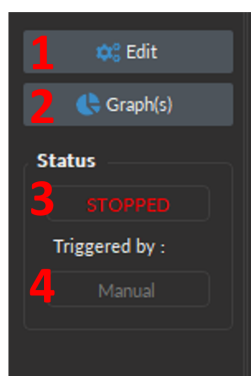

Figure 5.45: Common parameters
The following are the configurable parameters of a **KeyPress Event**, per Fig. 5.45:
6. The **Shortcut Key(s)** can be any keyboard key, including space bar, enter, backspace, any letters, number and special characters (*, !, ? etc.). To specify the key, click inside the *Shortcut Key(s)* cell, then press the keyboard key of choice. If a key was properly set, it will appear in the *Shortcut Key(s)* cell (as in Fig. 5.45, column 6).
The **Acquisition View** displays all the information concerning active channels: **Control box** (Fig.5.44) and the **Graphs** (Fig.5.45).
Each channel **Control box** shows the following basic elements (Fig.5.45), with additional elements available for specific channel types:
1. The **Channel name** (Fig. 5.45, 1) is located on the upper left of the **Control box**, identifying the type of channel and it's number, corresponding to that on the console. This name can be modified in the **Graph options** window (Fig. 13.36).
2. The **Edit** button (Fig. 5.45, 2) opens the **Channel Configuration** window, where channel parameters can be modified (See section 5.4.1).
3. The **Graph(s)** (Fig. 5.45, 3) button opens the **Graph Options** window (Fig. 13.36) corresponding to the channel whose graph will be modified. This window allows users to configure visualization and naming parameters of each channel graph (Fig. 13.36). If a channel has multiple traces, parameters to configure each trace individually will appear automatically on different rows (Fig. 13.36). **Graph(s) Options** parameters (Fig. 13.36) are as follows:
4. The **Status** bar (Fig. 5.45, 4) displays acquisition status. **STOPPED** is displayed when the acquisition is inactive, and **STARTED** when acquisition is active.
5. The **Triggered by:** (Fig. 5.45, 5) text-box displays the source of the trigger for that channel, which can either be Manual (i.e. selecting the **Record/Live** button) or a specific channel that provides external trigger signal.